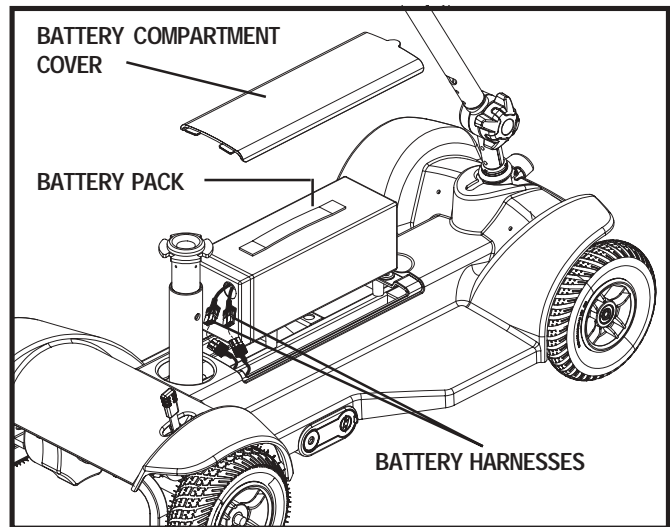

Figure 13. Battery Pack Removal
3. Remove the battery compartment cover. **See figure 13.**
4. Insert the batteries into the battery pack, making sure the battery harnesses extend through the opening in the battery pack. **See figure 13.**